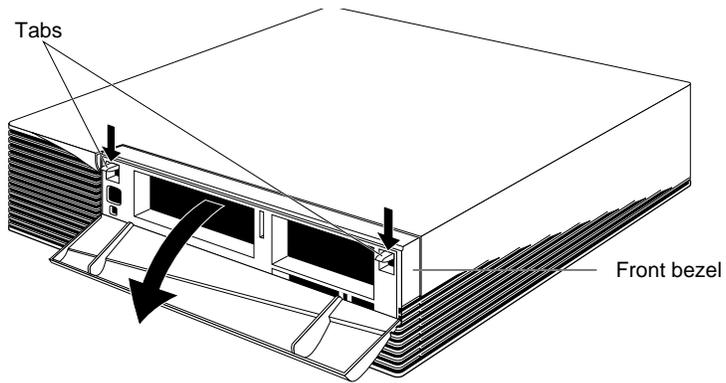

Figure 2-2 Removing the Front Bezel From the CHALLENGE M Chassis
- Press down on the tabs on each side of the bezel, as shown in Figure 2-2.